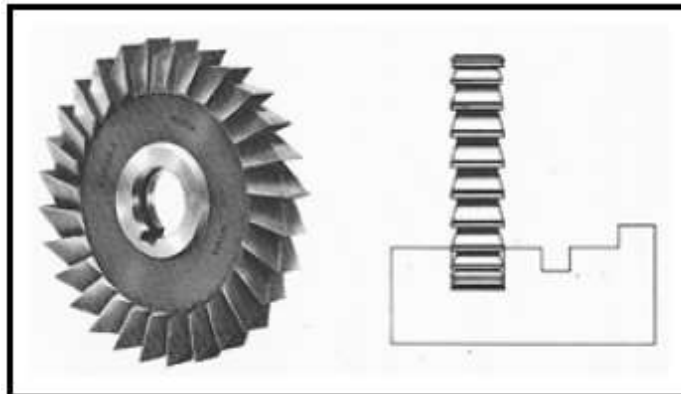

FIGURE 2.9.1
2.9 Identify the milling cutters in FIGURES 2.9.1 and 2.9.2 below.